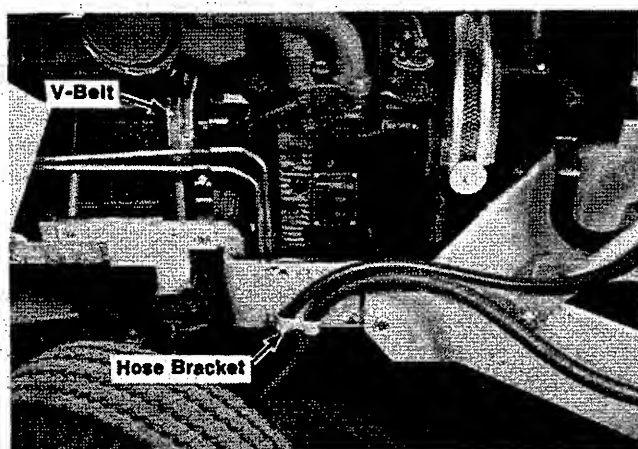

FIGURE 4
Once in place insert bolts and install lock washers and nuts previously removed from the pump assembly and tighten securely. Re-install the ground wires and springs holding the battery cover. Loosen the 3/8" x 2" belt tightener bolt so that the pump mounting plate will have freedom of movement up and down and then from the top install the V-belt, P/N 23092 over the tractor P.T.O. pulley and then install V-belt on the pump pulley. Figure 4.
Install Hose Bracket and Bushing P/N 24056 a. P/N 24057 as shown in Figure 4 with one (1) $\frac{1}{2}$ " x 2" bolt and LW.